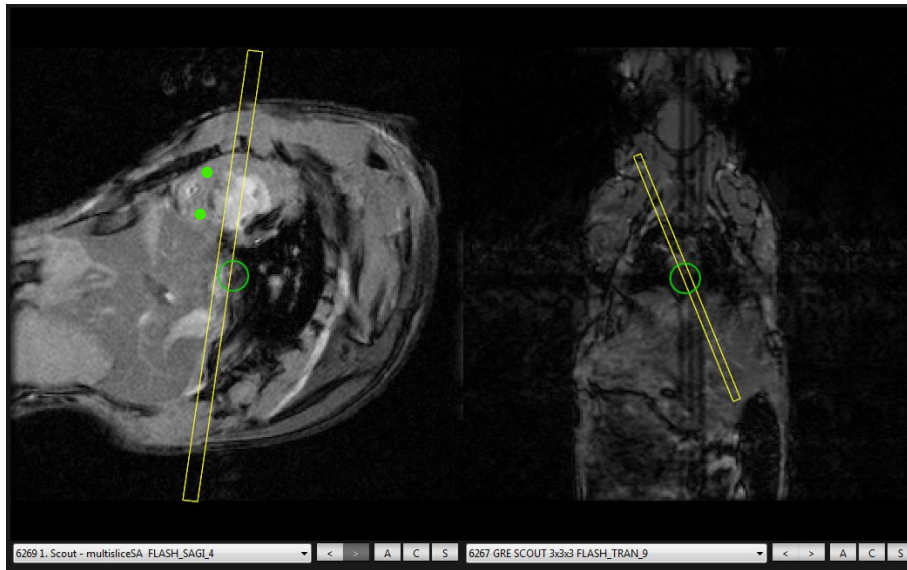

Figure 4: Planning of an apparent long-axis view (left) on the first cine in the apparent short-axis view and (right) on the coronal GRE scout.
- o Move and rotate the measurement slice such that it is aligned with the right ventricular insertion points (green spots in **Figure 4**).